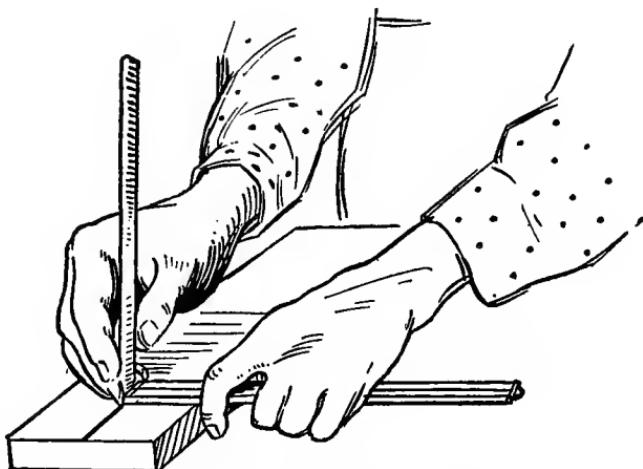

FIG. 144. — How to Gauge with a Rule and Pencil.
**Gauging with a Rule and Pencil.** When a carpenter wishes to rip a strip, say 2 inches in width, from a board, he holds his folding-rule upon the board with his left hand, as in Fig. 144, with his first finger even with the 2-inch measurement; then, holding his pencil with the point